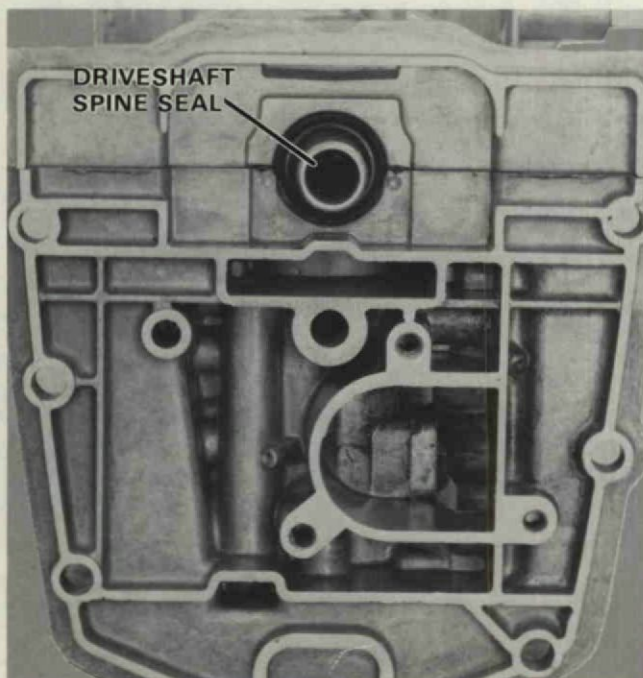

Figure 36. Installing Driveshaft Spline Seal.
7. Install drive shaft spline seal. Figure 36.